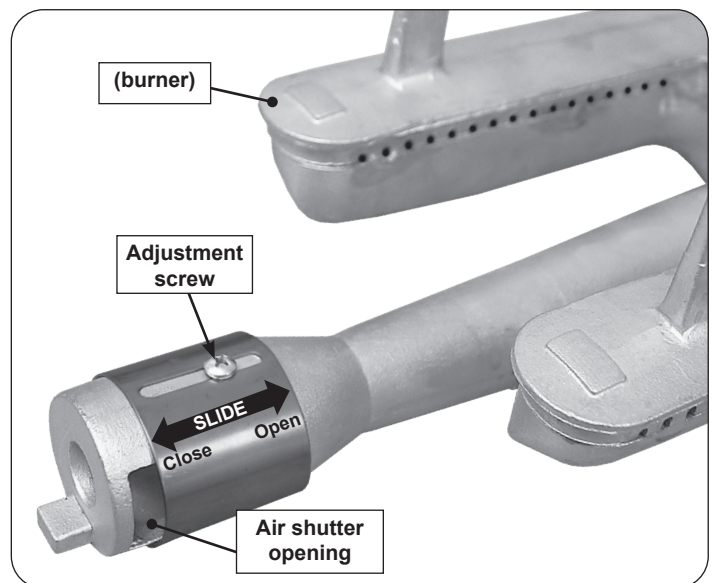

Fig. 53-2 Main burner air shutter adjustment detail
1. To adjust the air shutter, loosen the adjustment screw with a Phillips screwdriver. Then slide the shutter to open or close it. See Fig. 53-2 for details.